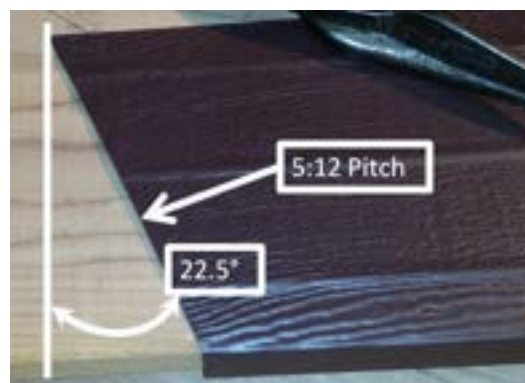

Figure 11-28. Gable Peak Front Side Fascia.
16. Measure from the end of the lower fascia piece to the peak and add 1½”. Measure this distance from the appropriate factory edge and mark the top edge. Align the speed square 90° corner with this mark to mark and cut the necessary angle. See Figure 11-28 for the right-hand peak end cut.